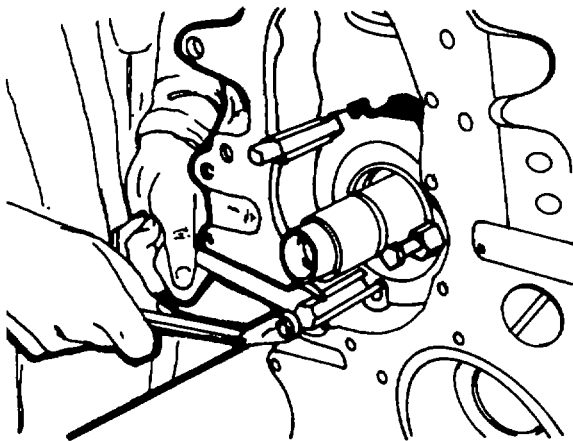

Figure 5-30. Pressing in Front End Shield
29. With the aid of tool No.003-0671, press in the front end shield uniformly, without forcing it out of square (figure 5-30).